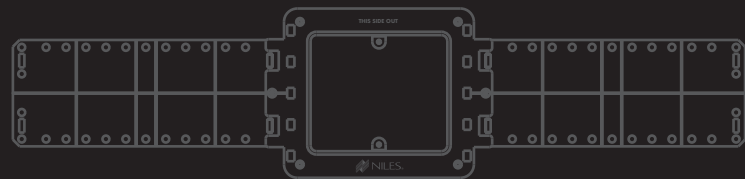

Figure 2: BKT-2 bracket and wing construction.
1. Attach the new construction wings to the bracket by snapping them into the sides of the bracket (**See Figure 2**). To shorten the wings, break them along the scored lines.